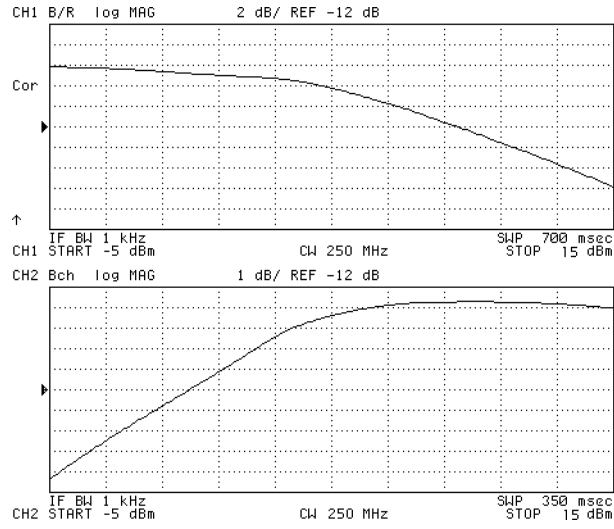

Figure 10-16.
6. Press **[Display]** **DUAL CHAN on OFF** to **ON off** to display both channel (see Figure 10-16). Note that you must subtract 6 dB from the input value readout. This is necessary because the input signal is attenuated by the power splitter that is between the RF OUT and the DUT.